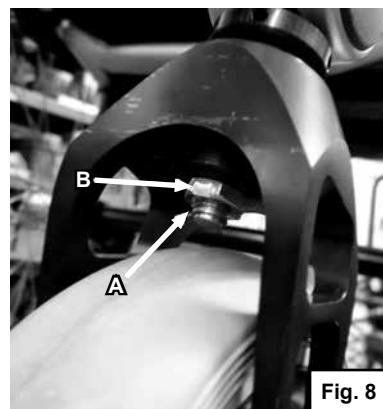

Fig. 8
- Remove the locking clip (A) at the lower end of the castor axis (Fig. 8)
- Remove the nut (B) with a 13 mm open-end or ring spanner
- Reassemble by following the instructions in reverse order. Observe the nut's tightening torque of 10 Nm (B)